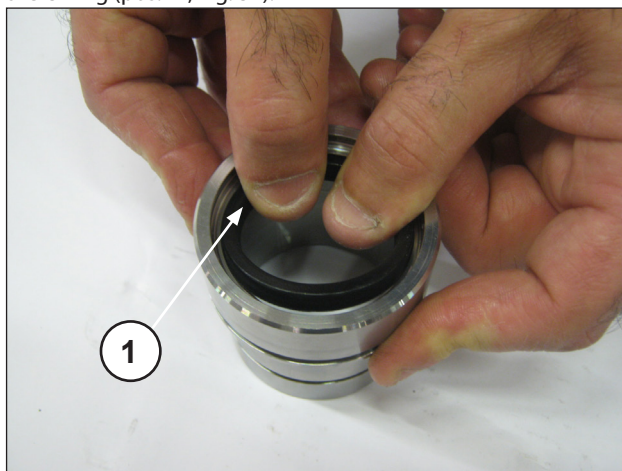
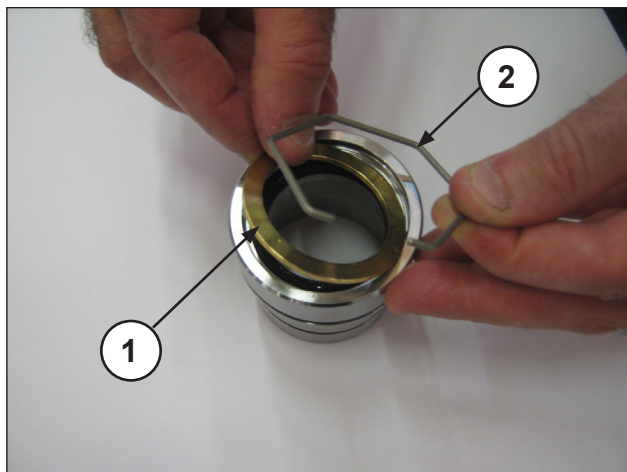
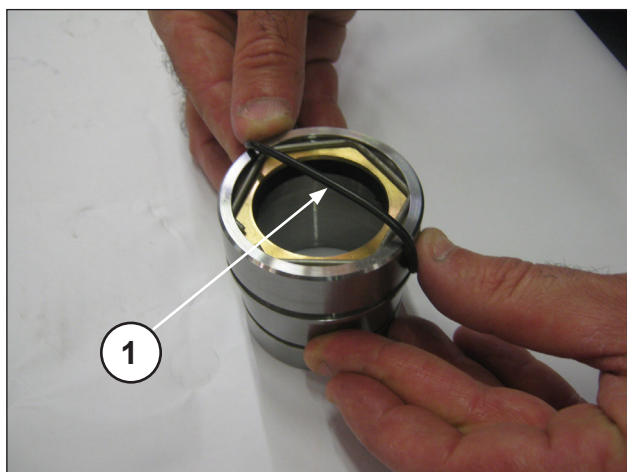

Fig. 35
Fig. 36
Fig. 37
Insert the low pressure seal in the packing support (pos. ①, Fig. 35) paying attention to the mounting direction which requires that the sealing lip be set forward (towards the head). Then insert the seal ring, retaining ring (pos. ①②, Fig. 36) and the O-ring (pos. ①, Fig. 37).